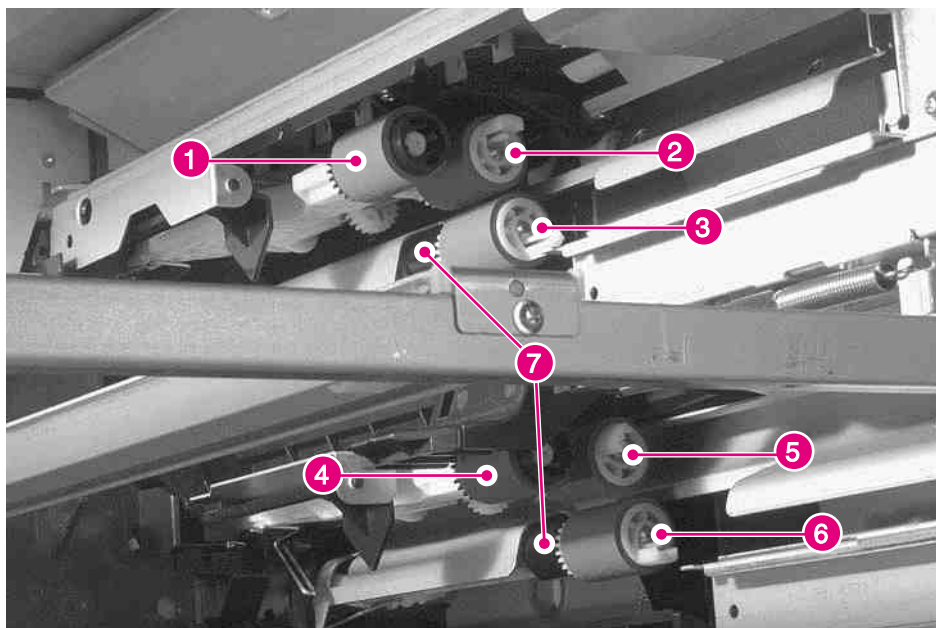

Figure 6-58 Tray 2 and 3, Pickup, Feed, and Separation Rollers
- Tray 2 Pickup Roller: figure 6-58, callout 1
- Tray 2 Feed Roller: figure 6-58, callout 2
- Tray 2 Separation Roller: figure 6-58, callout 3
- Tray 3 Pickup Roller: figure 6-58, callout 4
- Tray 3 Feed Roller: figure 6-58, callout 5
- Tray 3 Separation Roller: figure 6-58, callout 6
The Feed and Separation rollers have protruding tabs, and the pickup rollers have recessed retaining tabs. Be careful not to lose the plastic torque limiters located behind the Separation Rollers (figure 6-58, callout 7).